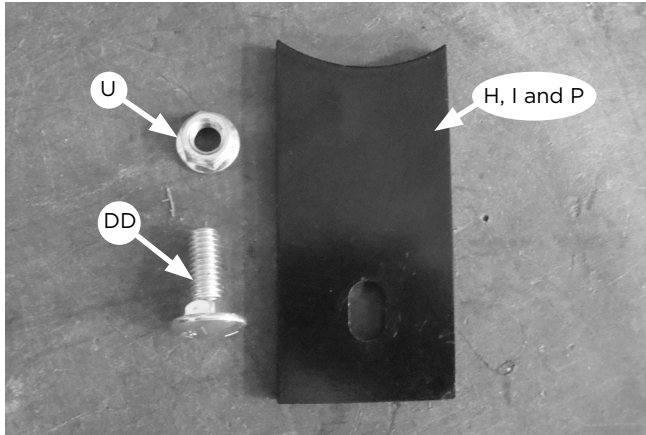
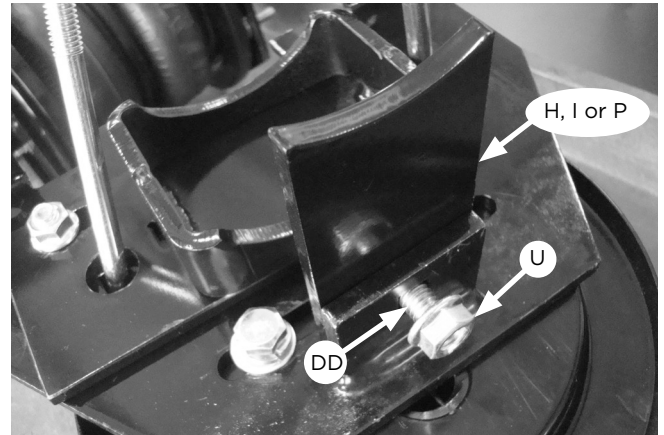

Fig. 14
Fig. 15
- Select the appropriate leg adapter for the specific vehicle as noted in the chart. Use Tremor adapter (H) for Tremor models. For non-Tremor models, use the 3.5" (I) or 4" (P) adapter depending on what the vehicle has for the axle diameter. Attach the appropriate adapter with a 3/8"-16 x 1" carriage bolt (DD) and 3/8" serrated flange lock nut (U) (Fig. 14). Install as shown (Fig. 15). Push adapter against the lower bracket and torque the hardware to 16 lb.-ft. (14Nm).